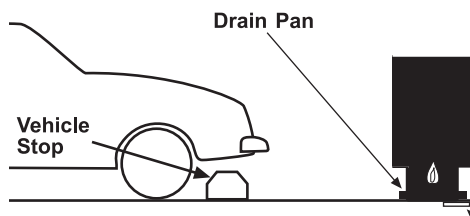

Figure 16. Garage Installation
3. Locate the water heater so it is protected and not subject to physical damage by a moving vehicle. In garage installation avoid damage to your water heater by installing a vehicle stop as shown in Figure 16. Check state and local codes for requirements prior to installation.